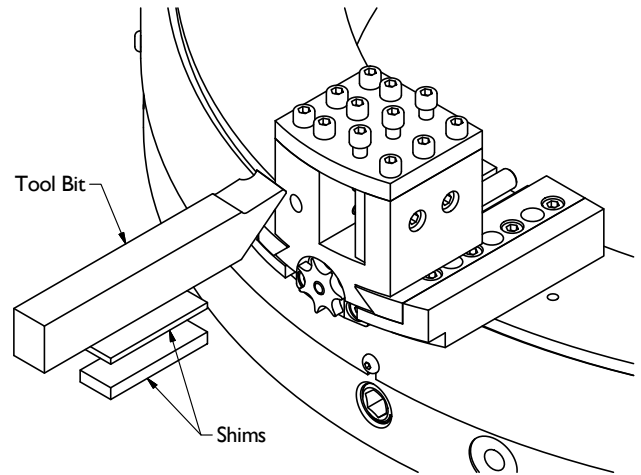

Figure 10 - Install Tool Bit and Shims
11. Insert a tool bit into each tool block. Use shims to position the tool bit as necessary. Each tool block must use the same thickness and quantity of shims. Limit the distance the tool bit extends out of the tool block for greatest rigidity. A rigid setup will help achieve the best performance, accuracy and quality of cuts. See Figure 10.